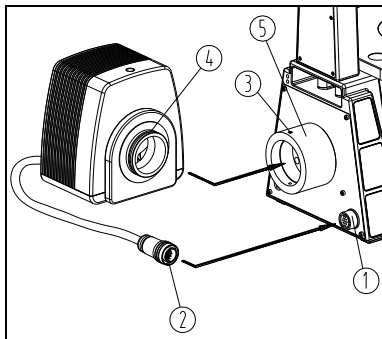

Fig. 27
(1) Insert the aviation plug (2) into the aviation socket (1), according to the direction shown in the figure. (See Fig. 27)
(2) Loosen the lock screw (3) completely by the M4 inner hexagon spanner.
(3) Gently push the LED fluorescence light box group (4) into the light source connector (5) to the bottom, then rotate the LED fluorescence light box group, to make the lower plane of the LED fluorescence light box group to be horizontal and lock the screw (3).